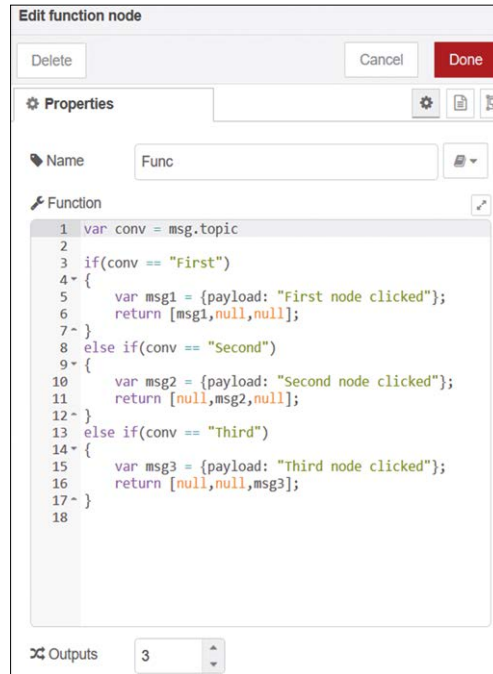

Figure 4.33 Create a function node
- Create a **function** node named **Func**, set its Outputs to 3, and enter the following code inside the function (see Figure 4.33). Notice that in a statement involving several **if** statements, it might be more readable to use a **switch** statement. Now click **Done**: